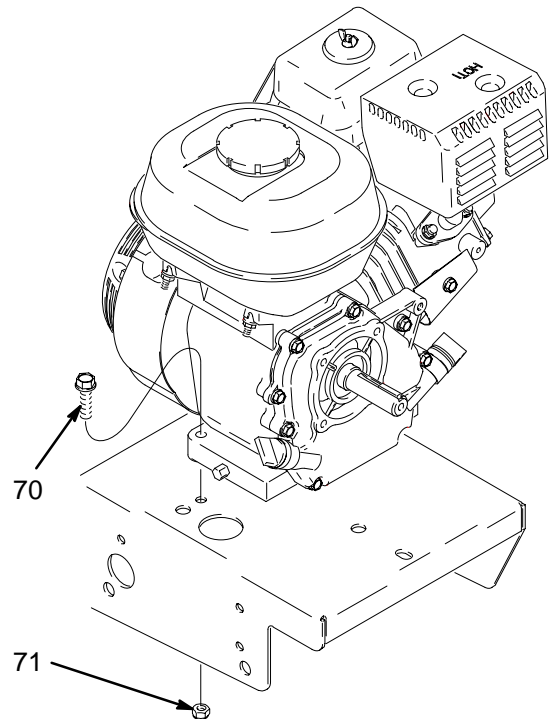

Fig. 14
3. Fig. 14. Remove two locknuts (71) and screws (70) from base of engine.
2. Fig. 14. Install two screws (70) in base of engine and secure with locknuts (71). Torque to 200 in-lb (22.6 N•m).